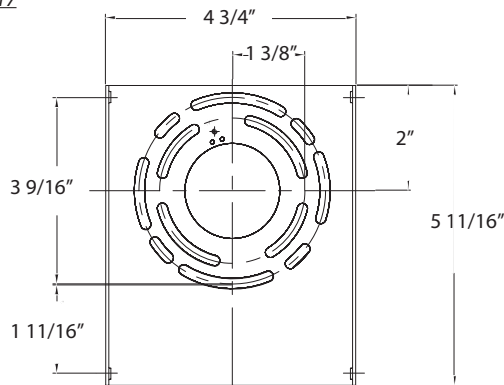

Fig.2 Wiring
CONNECTING THE WIRES (FIG.2)
4. Connect the electrical wires as shown in Fig. 2, making sure that all wire connectors (A1) are secured. If your outlet box has a ground wire, connect it to the fixture's ground wire. Otherwise, connect the fixture's ground wire directly to the backplate (D1) using the green screw (E1) provided. Tuck wires carefully inside the junction box.